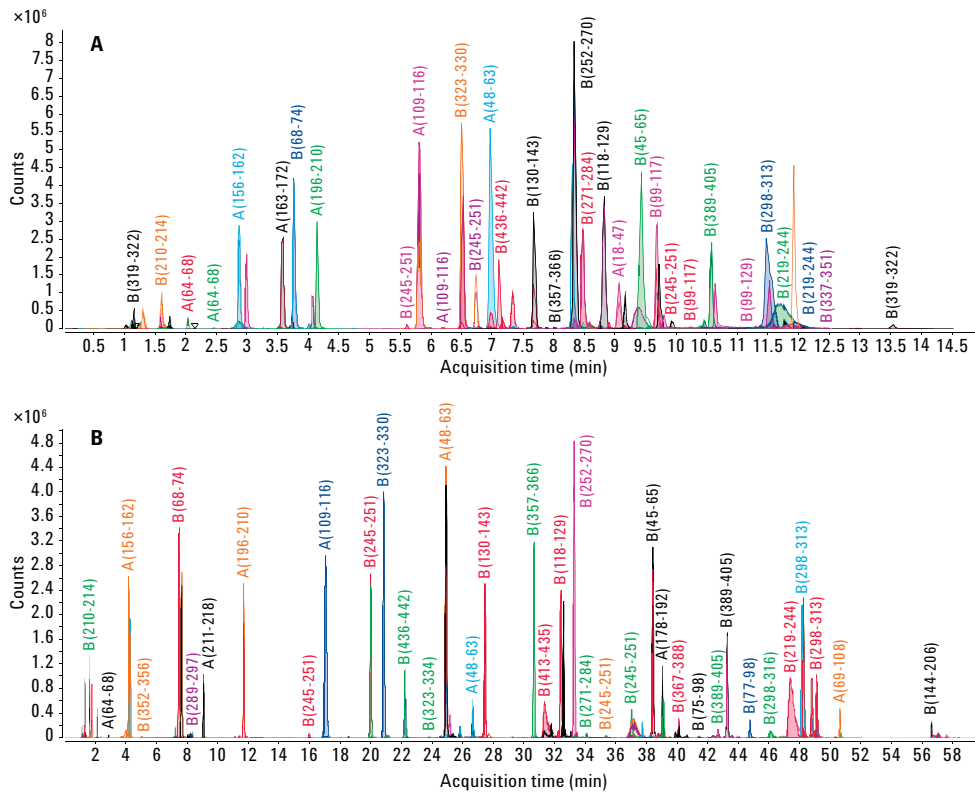

Figure 2. Identified peptide chromatograms with peptides identified for (A) 15-minute run and (B) 60-minute run.
Employing a 60-minute gradient, 95.1 % sequence coverage was achieved with 82 peptides identified by MS/MS. No additional PTMs were identified with the 60-minute gradient. Using the Agilent AdvanceBio Peptide Mapping column and a steep 15-minute gradient, a high resolution and high peak capacity peptide map was achieved with high sequence coverage. Figure 2 shows the overlaid extracted compound chromatograms for (A) 15-minute gradient and (B) 60-minute gradient.